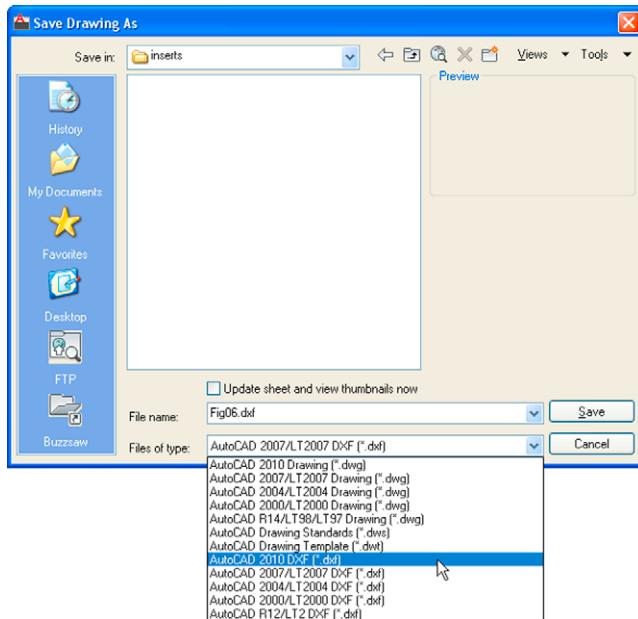

**Fig. 10.6 Example – DXF file.** Drawing to be saved as a dxf file
1. Open a drawing in AutoCAD. This example is shown in Fig. 10.6.